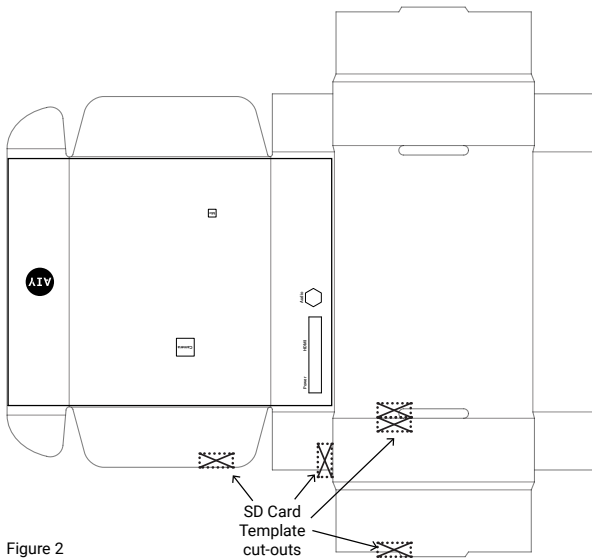

Figure 2
- 4 Empty the box, unfold it, and lay it flat, as shown in figure 2.
- 5 Grab the SD Card Template you already cut out and use it to trace and then cut away the five areas indicated in figure 2. The placement does not need to be exact. This will allow access to the SD card when the box is refolded.